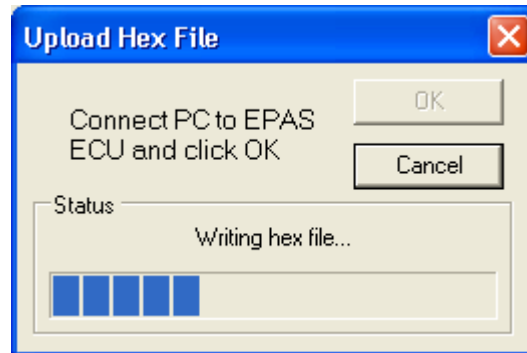

Figure 6 - Upload Hex File Dialog (Writing)
8. Switch on the EPAS ECU, the Upload Hex File dialog shows that the selected hex file is being uploaded to the EPAS ECU (Figure 6).